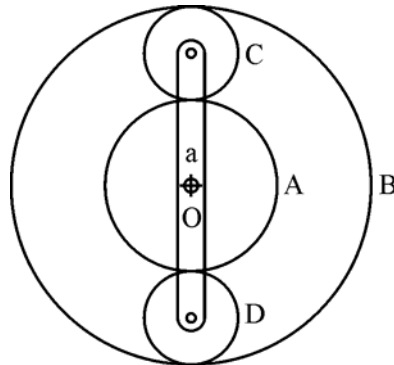

Figure No. 1
- (c) An epicyclic gear train is shown in figure no. 1. The number of teeth on A and B are 80 and 200. Determine the speed of the arm, 'a'